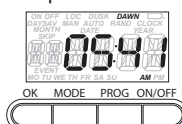

Fig. 5
11. Press OK to skip Dawn Time, otherwise turn the knob to adjust the Dawn Time, (Fig. 5) and press OK.